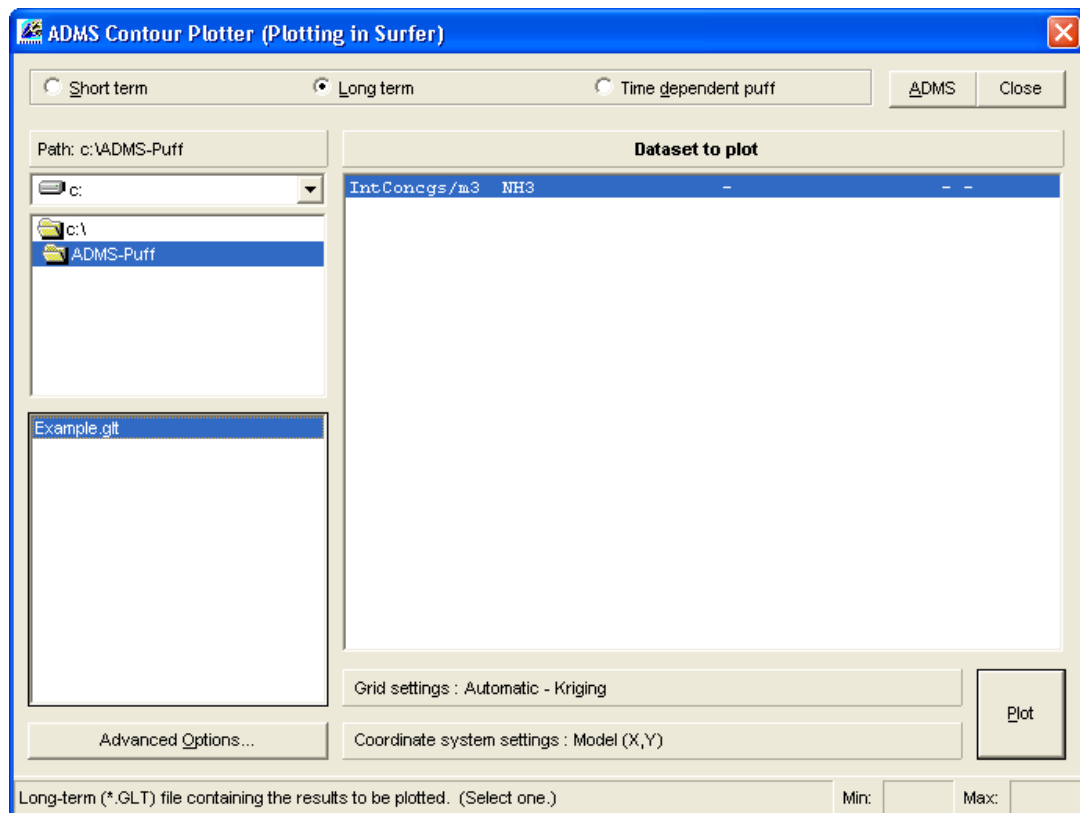

Figure 14: The ADMS Contour Plotter utility.
- 8. If you have Surfer installed, click the **Results** menu and then click **Contour plot in Surfer**. The ADMS Contour Plotter utility will appear, as shown in Figure 14.